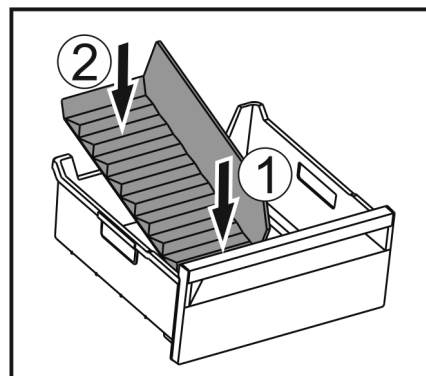

Fig. 121
- ▶ Insert the front part of the ice compartment divider. Fig. 121 (1)
- ▶ Lower the rear part of the ice compartment divider to the drawer bottom. Fig. 121 (2)